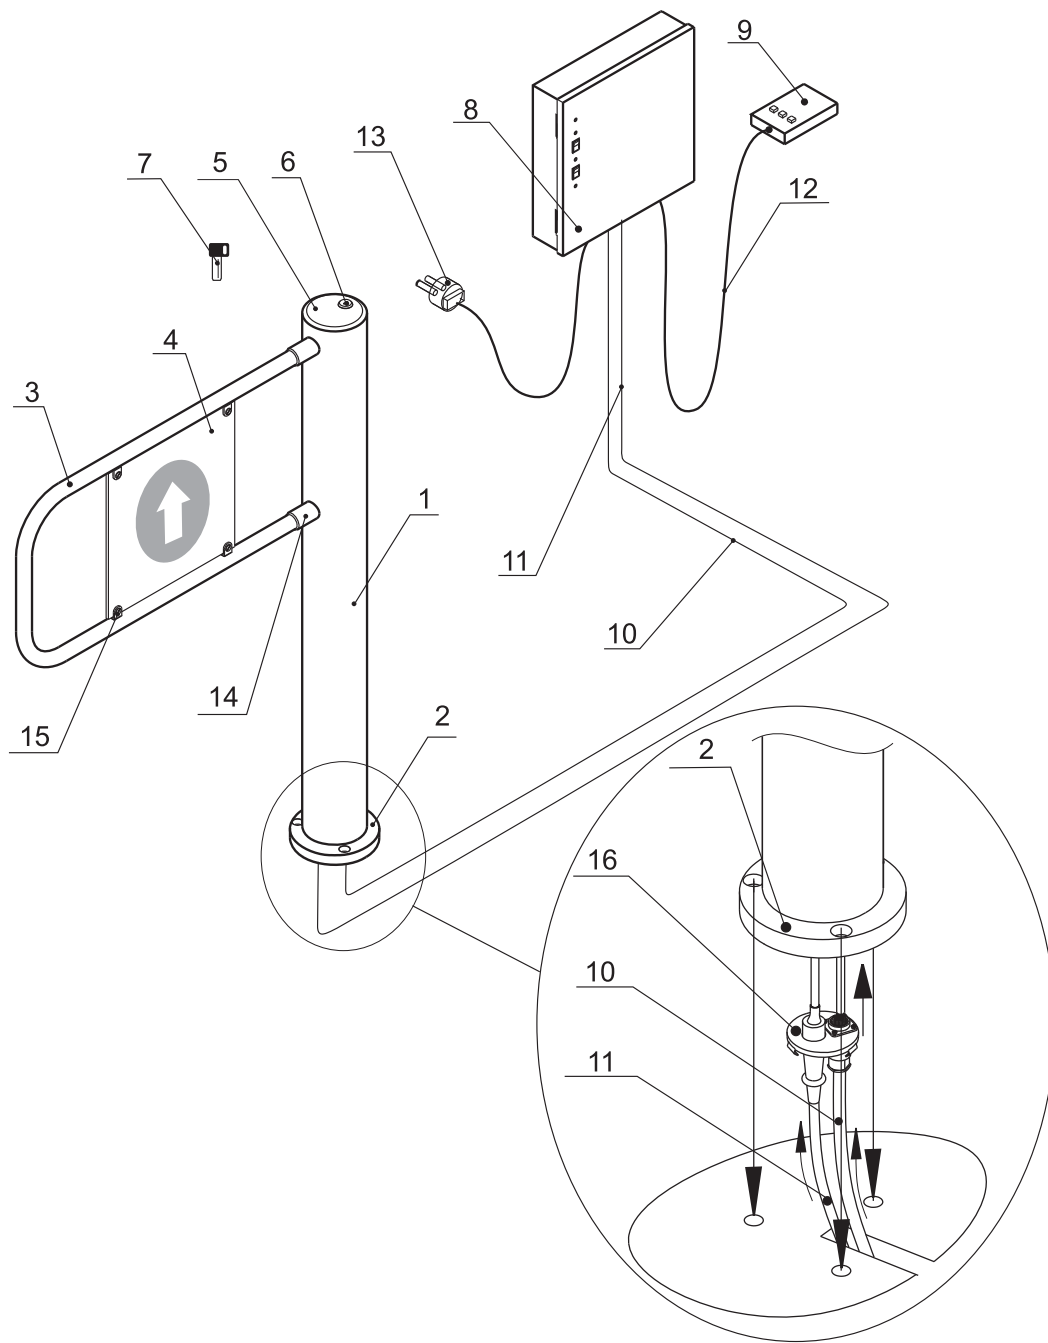

Figure 1. WMD-04.3S general view
5.2.1 Design of the wicket gate is shown in Figure 1. The numbers of the positions in brackets are given according to Figure 1 unless stated otherwise.